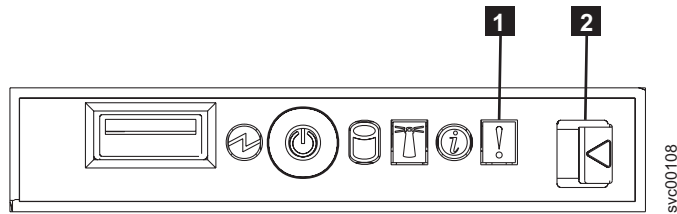

Figure 118. Operator information panel
4. Press the operator panel release latch **2** and slide the operator information panel away from the SAN Volume Controller 2145-8F2. See Figure 118 on page 334.